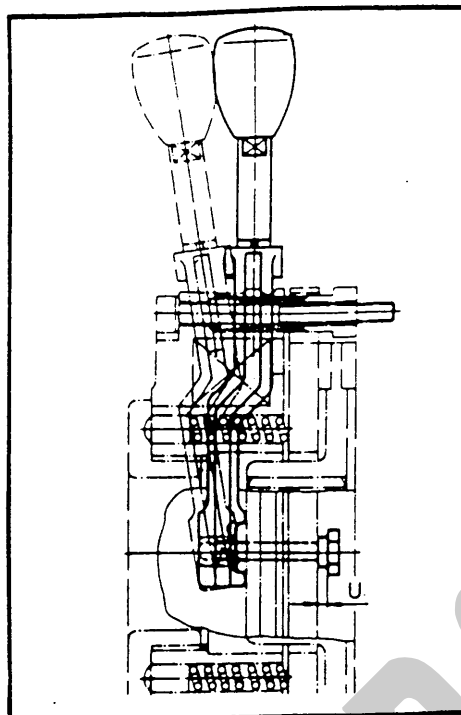

FIGURE 3
10. Set the hand release gap (Dimension "U" Figure 3) to the value indicated in Table 3 by tightening nuts (13H). Once set the nut is locked with factory applied thread locking compound. Any change in this setting could interfere with the safe operation of the brake.